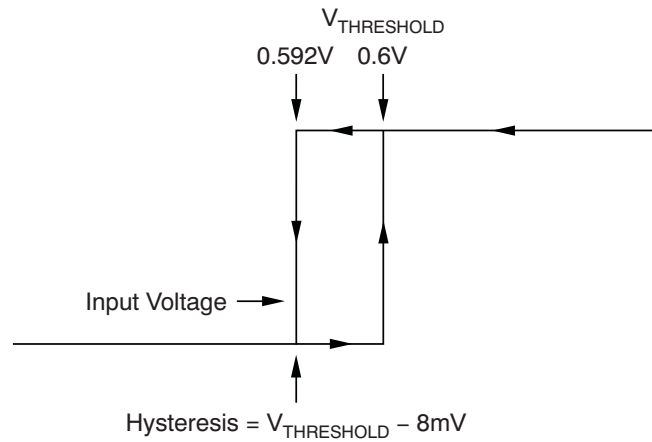

Figure 1. Typical Comparator Hysteresis
- (1) Hysteresis refers to the threshold (the threshold specification applies to a rising edge of a noninverting input) of a falling edge on the noninverting input of the comparator; refer to Figure 1.
- (2) Specified by design.
- (3) V_{ID} refers to the differential voltage at the comparator inputs.
- (4) Open-drain output can be pulled to the range of 2.7 to 18 V, regardless of V_S .
- (5) The comparator response time specified is the interval between the input step function and the instant when the output crosses 1.4 V.
- (6) The $\overline{\text{RESET}}$ input has an internal $2\text{ M}\Omega$ (typical) pull-down. Leaving $\overline{\text{RESET}}$ open results in a LOW state, with transparent comparator operation.